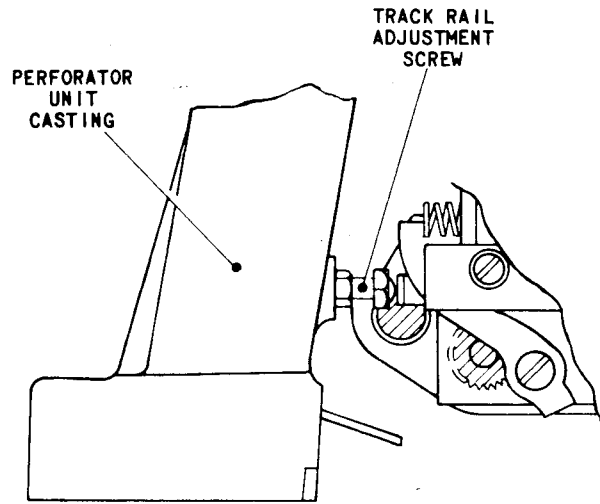

FIG.L.5 CORRECTOR TRACK RAIL ADJUSTMENT MECHANISM
- 3.2 If this condition is not present, slacken the locknut securing the track rail adjustment screw, Fig.L.5 (located on the perforator unit casting) and adjust this screw until the condition is satisfied. Tighten the locknut.